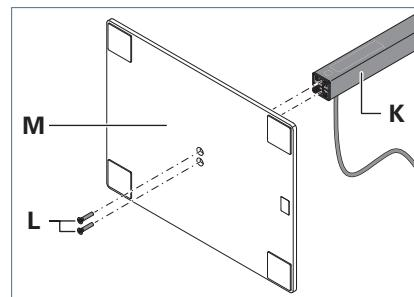

Fig. 3: Assembling the column.
- Assemble the column with the screws provided L on the luminaire base M, see Fig. 3.